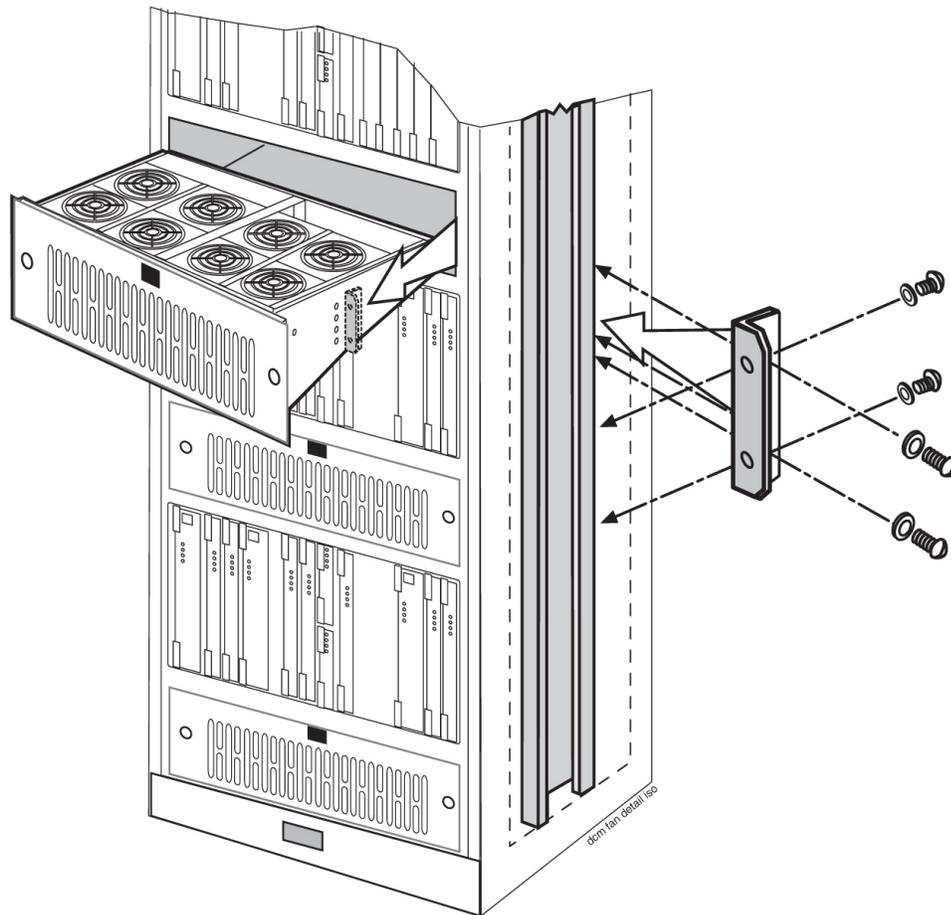

**Figure 93: Fan Assembly with Grill and Filter**
1. Determine where the fan assembly will be installed and be aware of hardware that needs to be retained or installed in a specific way, see Figure 93: Fan Assembly with Grill and Filter.